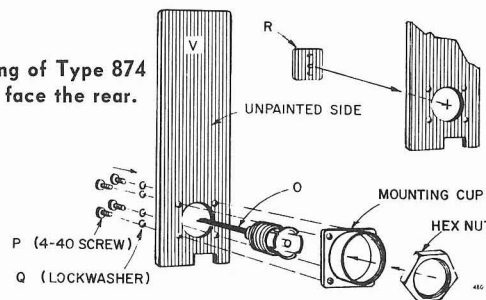

Figure 2-8. Mounting of Type 874 panel connector to face the rear.
e. If the coaxial patch cord is used to bring the output of the 1362 Oscillator from the front of the panel to the back, the mounting cup, locked to the connector with a large hex nut, should be reversed to obtain a neater assembly. The sequence of parts for this method of assembly is shown in Figure 2-8.
f. Install the four 4-40 screws (P) with lockwashers (Q) from the front of panel (V) and thread them into the mounting cup of the patch-cord assembly (O).
g. If the patch cord assembly is not to be used, assemble the cover plate (R) and mount it over the hole (insert, Figure 2-8). To do this, push the spring into the mounting hole from the front.